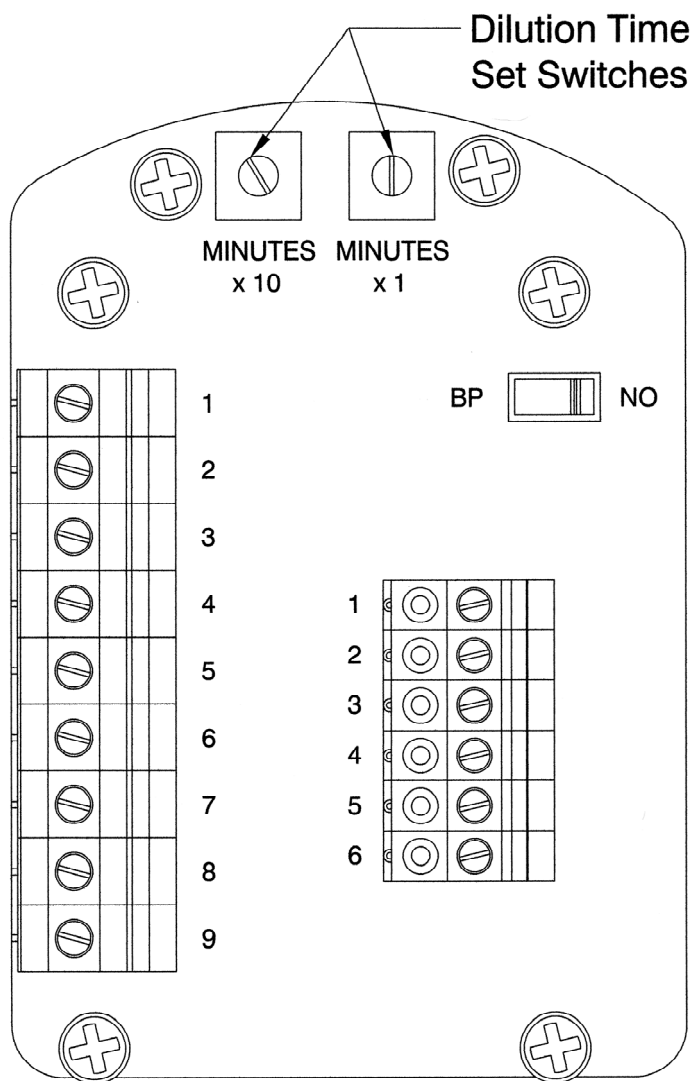

Figure 2
With enclosure door open to access the CYCLOPS X – Purge Controller, SM Version, set automatic dilution time cycle to least five (5) times the volume of free space in the electronics enclosure is exchanged before power is automatically applied to the electrical equipment from the CYCLOPS X – Purge Controller, SM Version. ***Refer to Figure 2 for location and details of dilution time switches in CYCLOPS X – Purge Controller, SM Version. After automatic dilution purge time cycle has been set, properly close and latch electronics enclosure door CYCLOPS X – Purge Controller, SM Version is installed.***